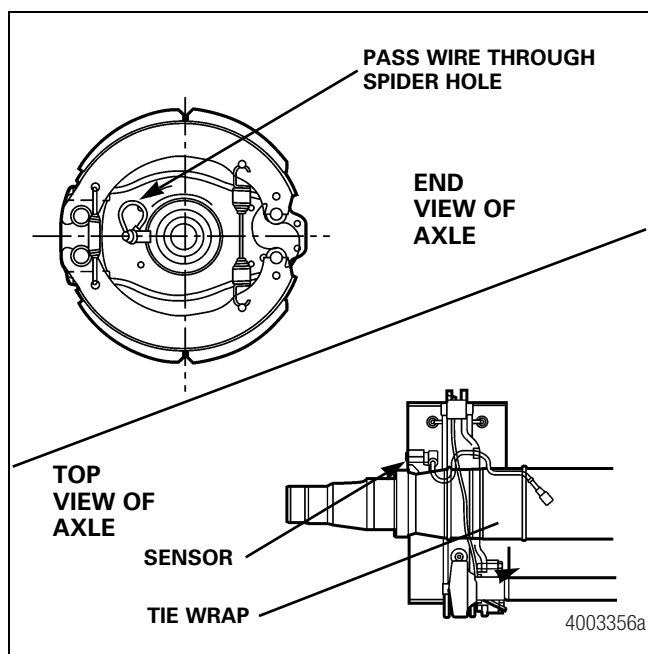

Figure 13.11
- If the sensor is to be located at the bottom of an axle, first route the sensor wire to the top of the axle within the brake cavity. Then route it through the brake equipment. Figure 13.11.
1. Current production cam brakes are built with a hole in the spider for routing the ABS wire. Figure 13.11.